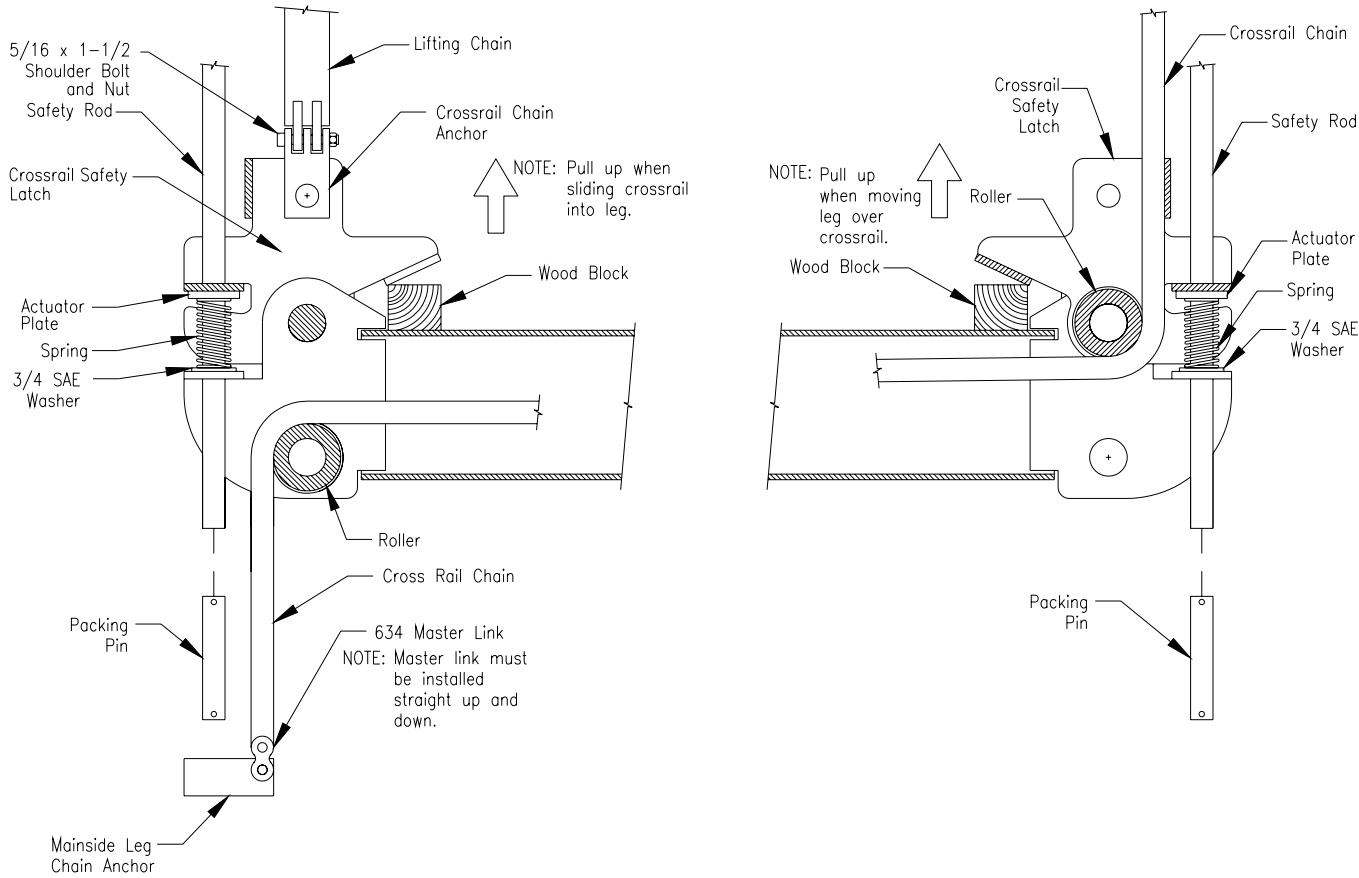

Figure 6
17. Position a 2 x 4 block under the safety latch on the mainside end of the crossrail as shown in Figure 6. Install a 3/4 nut onto the safety rod and turn it down to the end of the threads on the rod. Remove the nail from the top end of the packing pin in the crossrail. Push the pin down and out using the safety rod, leaving the safety rod in the latch mechanism. While pulling up on the safety latch and while a helper pulls on the other end of the crossrail chain, insert the top of the safety rod into the rear hole at the top of the mainside leg and slide the crossrail end into the mainside leg. Secure the top of the safety rod with a 3/4 nut. The top nut should be flush with the end of the safety rod and the bottom nut should be tightened against the leg top. Remove the wooden block. Repeat this procedure for the other three corners.